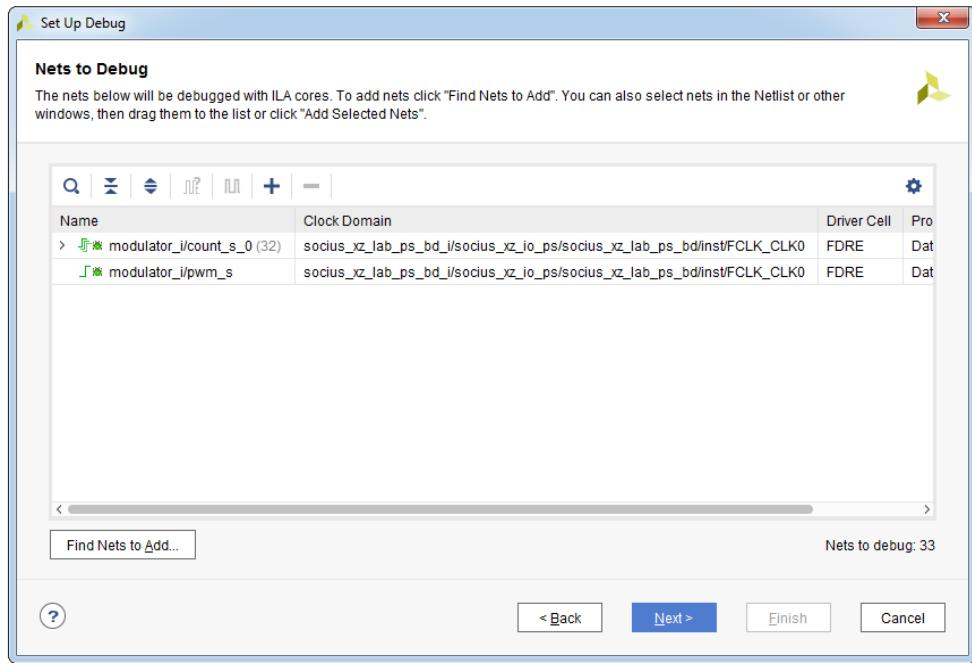

Figure 11.27: Nets to Debug dialog box - with specified clock domains
26. Select the same clock domain for **pwm_s** net, because signals captured by the same ILA core must have the same clock domain, Figure 11.27.